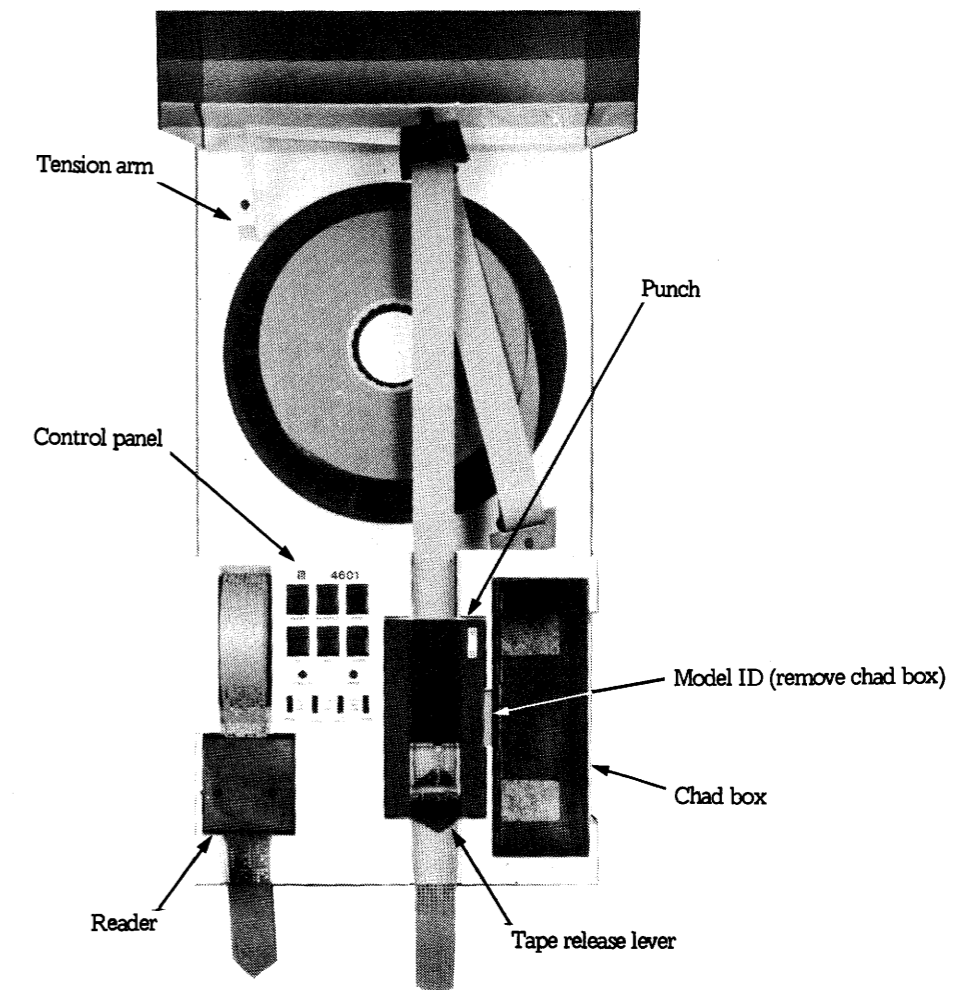

Fig. 4.1 Top view
3. Thread the tape around the two rollers as shown in Fig. 4.1.
Place the tape to be read in the container as shown in Fig. 4.1. Open the reader lid, engage the tape with the sprocket, and close the lid. If the optional unwinder is to be used (reels larger than 75 mm) thread the tape as shown in Fig. 1.1.